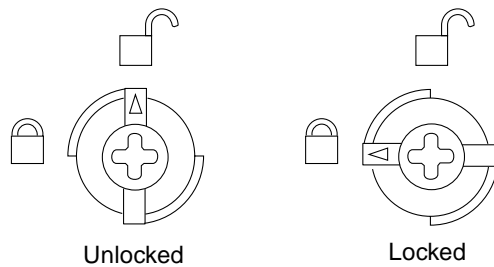

FIGURE 7-7 Quarter-Turn Access Slots
2. Use a Phillips #1 screwdriver to turn each quarter-turn access slot on the power supply to the unlocked position (FIGURE 7-7).
7. **Use a Phillips #1 screwdriver to turn each quarter-turn access slot to the locked position (FIGURE 7-7).**